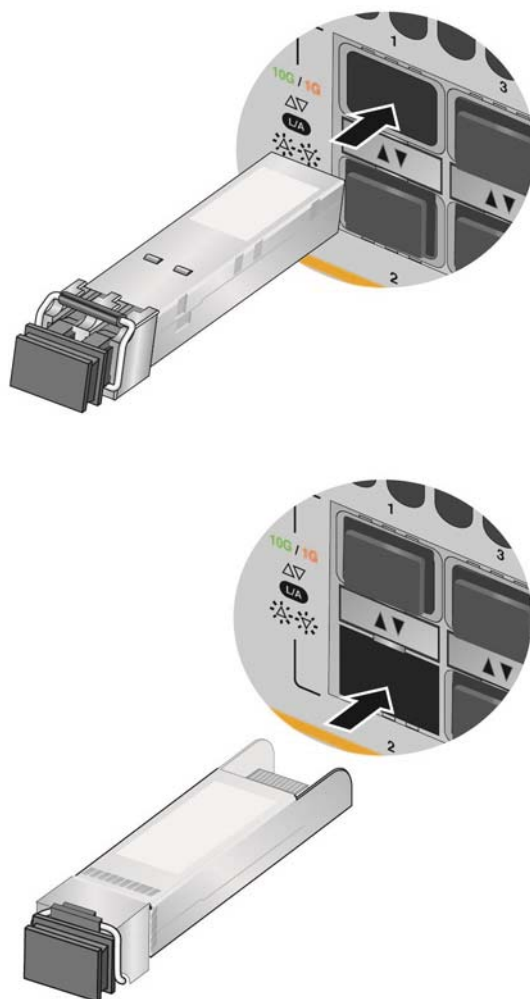

Figure 65. Installing an SFP Transceiver
4. If you are installing the transceiver in a top slot, position the transceiver with the Allied Telesis label facing up. If you are installing the transceiver in a bottom slot, position the transceiver with the label facing down. Refer to Figure 65 on page 113.